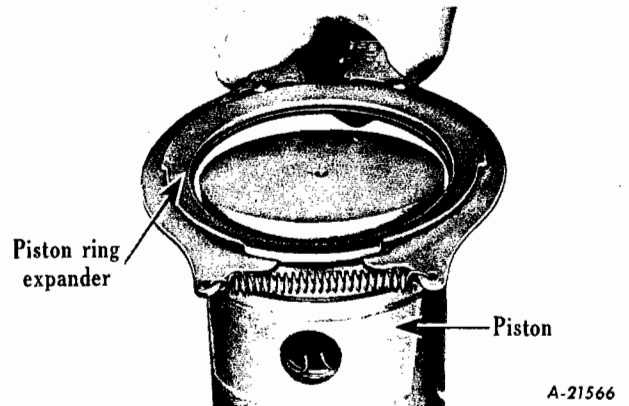

Fig. 34 - Installing pistonring using SE-1149-8 Ring installing tool.
3. When installing piston rings in piston grooves, be careful not to distort rings. If possible, use a suitable piston ring expander tool (Fig. 34). Also check new piston rings in piston ring grooves for clearance between ring and ring lands. The correct ring clearance is shown in specifications.